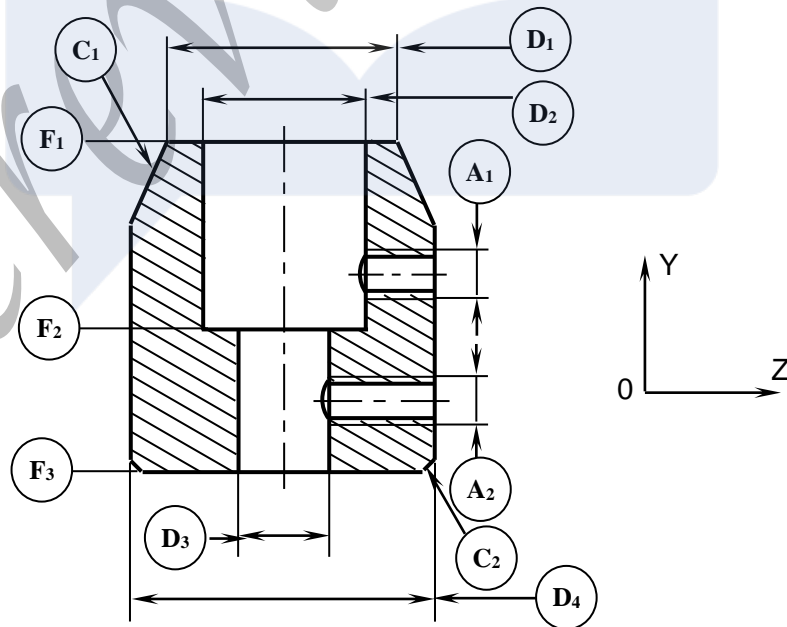

Figure 1
You have at your disposal one (01) rough piece to manufacture the prototype of the **Body** of an Adjustable Stop as shown in figure 1. The prototype is to be manufactured with respects to all the specifications as indicated in the detail and manufacturing drawings.